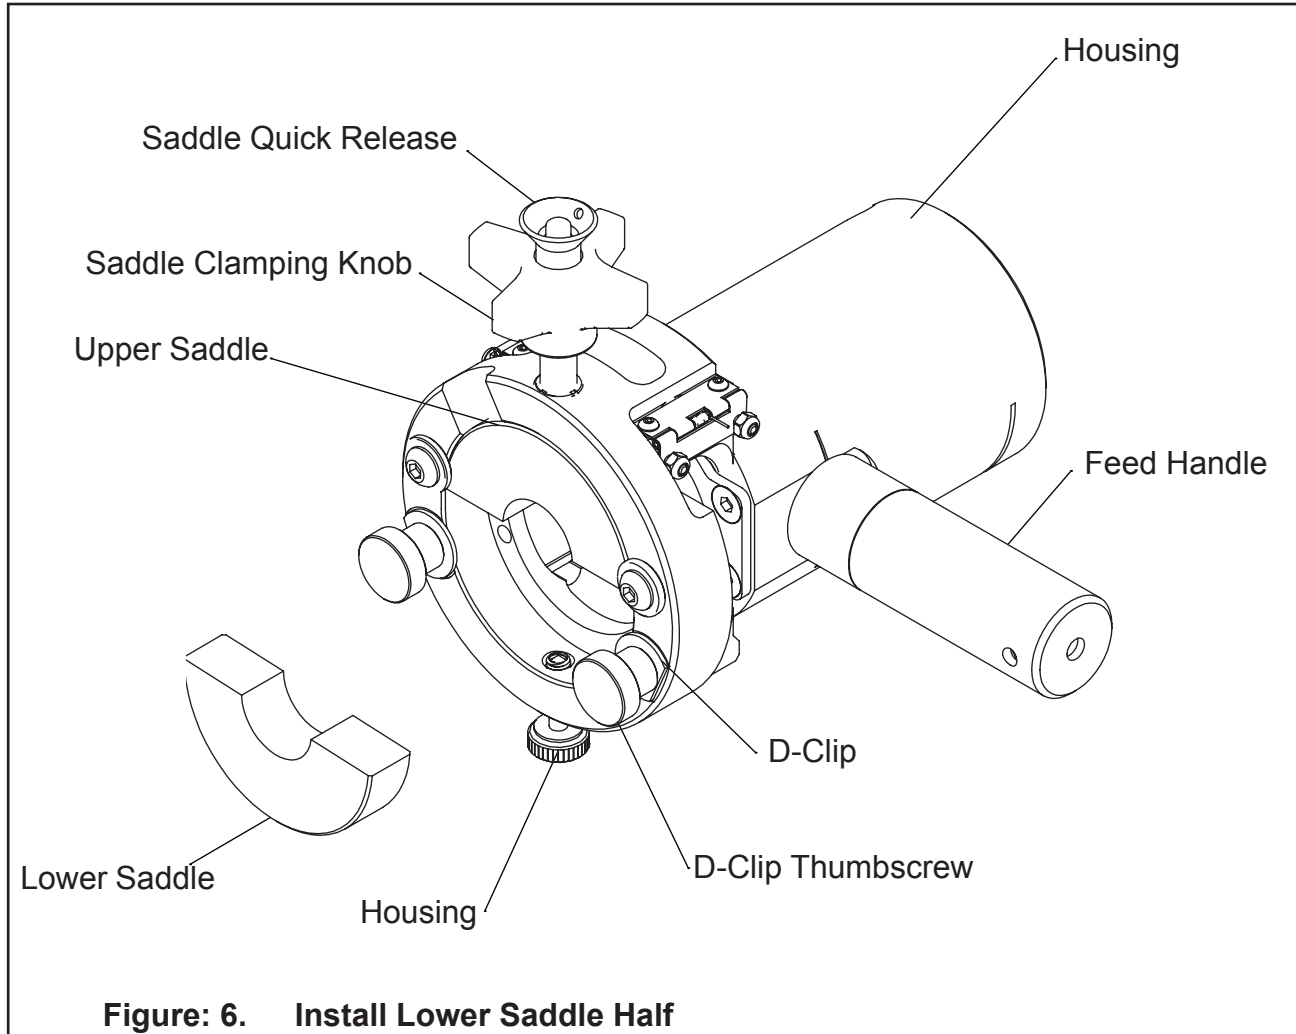

Figure: 6. Install Lower Saddle Half
5. Place the Bottom Saddle half in the Housing. Lightly tighten the Saddle Thumbscrew into the Bottom Saddle half. Refer to Fig. 6.